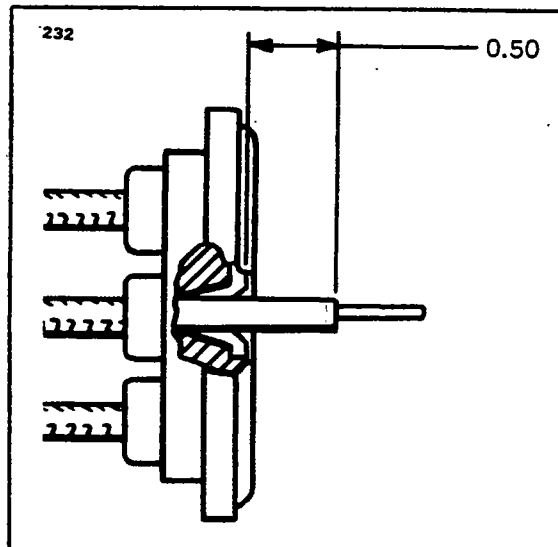

Figure 8A-28. Installing Grommet Over Lead Assemblies
14. Cut wire  $3/8$  inch from top of grommet outlet (Refer to Figure 8A-28). Double wire over as shown in A of Figure 8A-30. Slide eyelet over doubled wire until it is firmly seated in recess of grommet outlet.